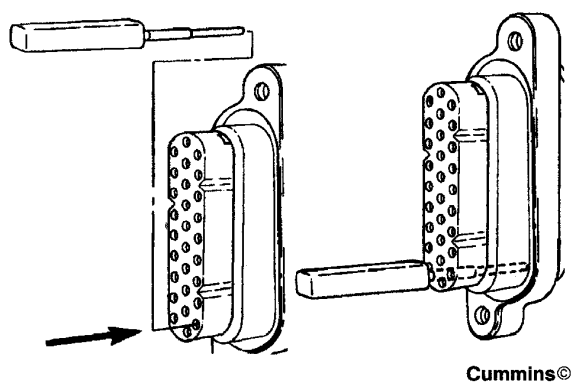

Figure 68 Push Tool to Bottom of Cavity
3. Locate the damaged terminal. Insert terminal removal tool, Cummins Part No. 3822759, in the terminal about 0.7 in. (18 mm). Push the tool to the bottom of the cavity (Figure 68).